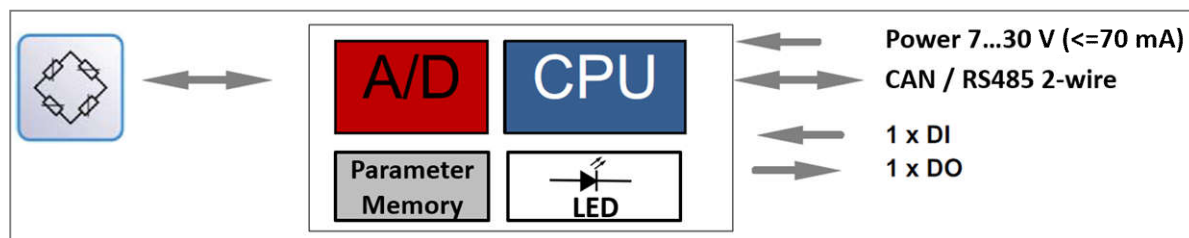

Figure 1: Block diagram of AD105D
A block diagram comprising the most important units and interfaces of the AD105D is shown in Figure 1. AD105D requires a power supply 7...30 V with a typical power consumption of 30 mA@12 V. An analog-to-digital converter (A/D) at the input digitizes the transducer measurement signal, which is then processed by the CPU with and 2-wire RS485 or CANopen interface. One freely configurable Digital Input (DI) and Digital Output (DO) are available. They are configurable via IN1 and OUT1 respectively in the PanelX software. An LED, which is internally connected (OUT2), is additionally configurable in PanelX.